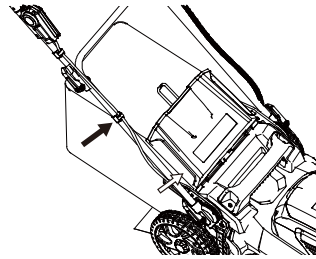

FIG. 3
4. Secure the control cord with the two clips provided (Fig. 3).